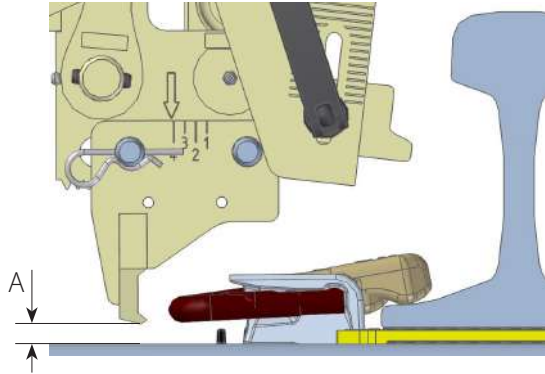
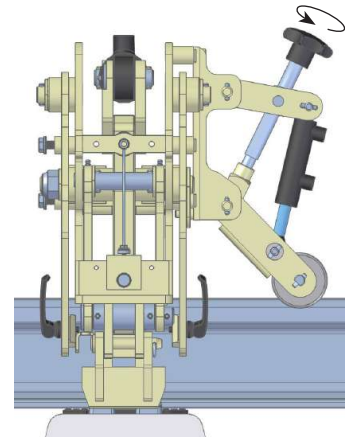

Fig. 36
Fig. 37
3. Activate the dead-mans-handle and check that the clipping shoes are in the right height relative the clip. This depends on the type and dimension of the actual rail. If necessary, adjust the height of the work head with the adjustment mechanism on the sleeper lifter (Fig. 37). The dimension "A" in Fig. 36 is recommended to be 10-13 mm for FASTCLIP FE and 8-11 mm for FASTCLIP FC.